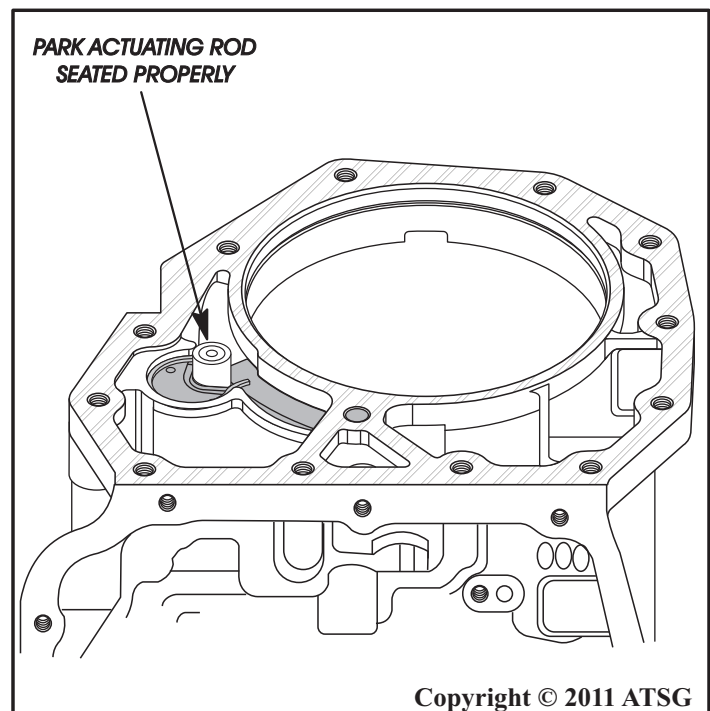

Figure 63
- Note:** Ensure that park actuating rod is seated between park pawl and park guide, as shown in Figure 63.